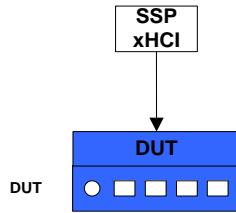

Figure 6-22: Compound Device Only Topology
- Attach the configuration shown in Figure 6-22 to an available SSP xHCI port.